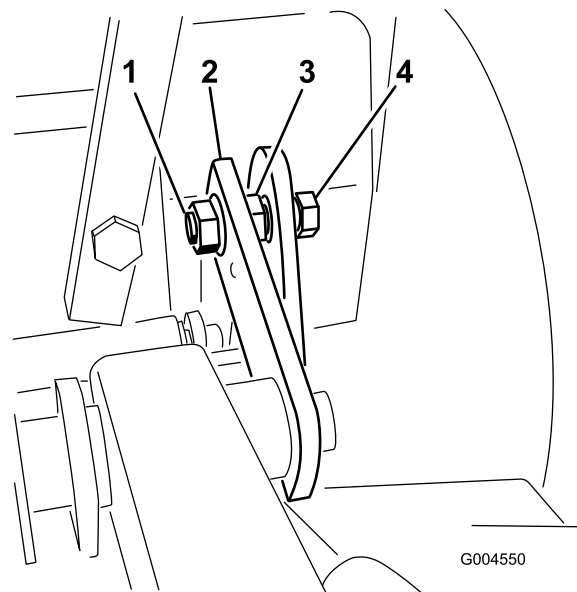

Figure 52
9. Adjust the bolts so the end of the bolt is flush with the nut. This will allow the bushing to roll in the slot in the mower deck bracket (Figure 52).